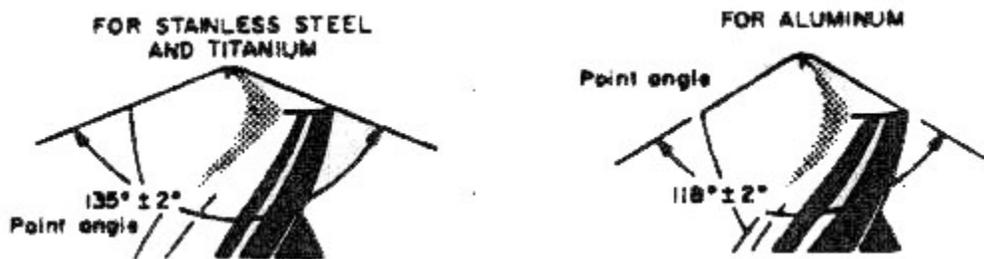

Figure 8-8. Drill Angles: Length and Angle of the Lips
**Length and Angle of the Lips:** The lips are of equal length and at the same angle with the axis of the drill. See Figure 8-8.